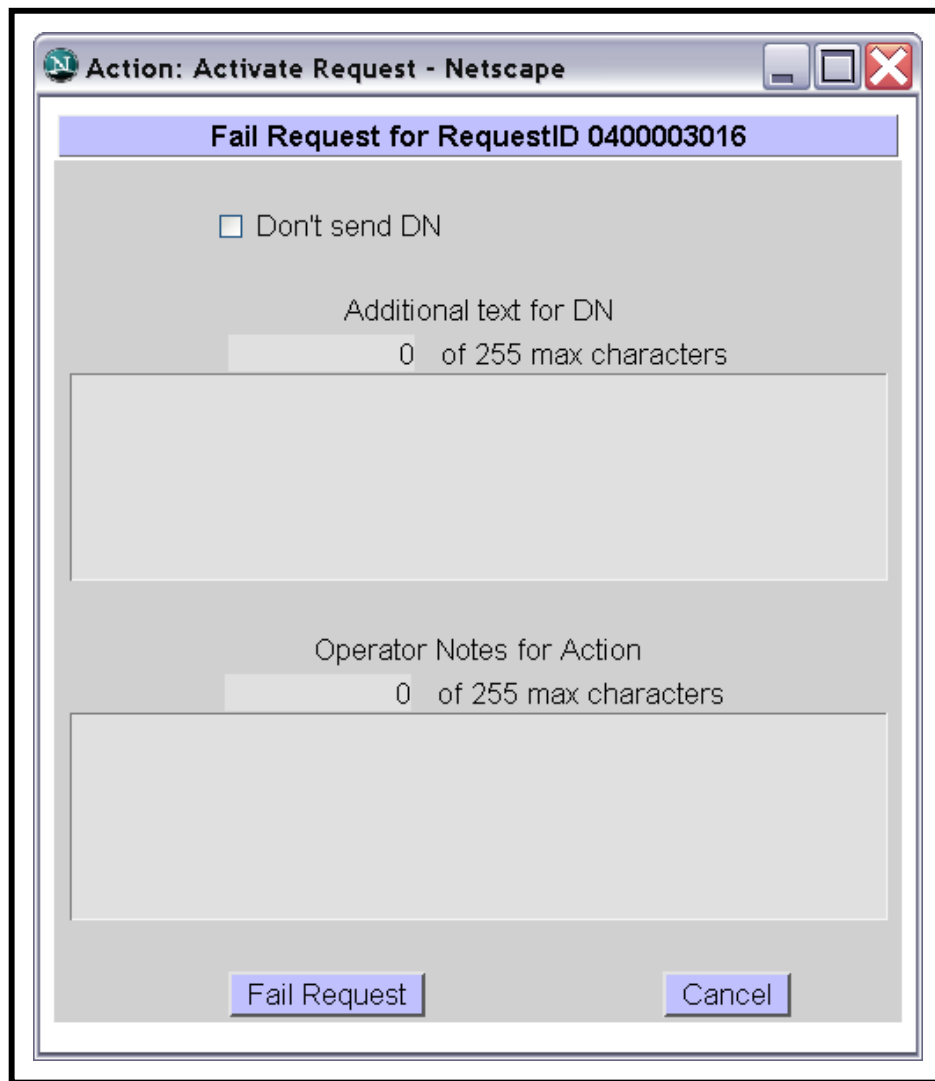

Figure 92. Fail Request Page
The **Fail Request** page (Figure 92) provides the full-capability operator with a means of manually failing PMD requests. In addition, the full-capability operator has the options of either entering additional text to be included in the distribution notice (DN) or specifying that no DN be sent. Furthermore, the full-capability operator has the option of annotating the action.
- A **Fail Request** dialogue box (Figure 92) is displayed.